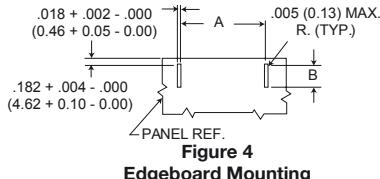

Figure 4
3. Figure 4 is for edge board mounting bracket or edgeboard clip assembly. The $.184 + .002$ ($.46 + .05 - .00$) dimension locates the MD socket insulator flush with the end of the board.